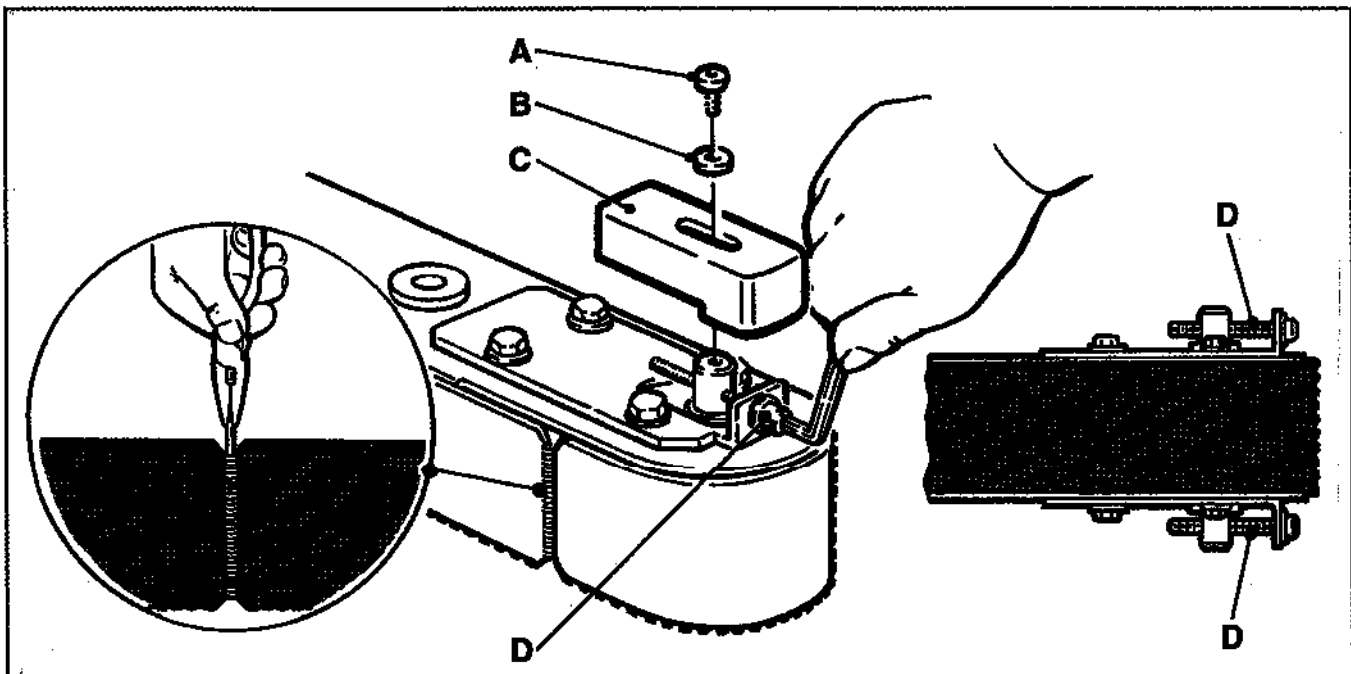

Figure 4-2 – Drive Belt, Upper
2. Remove screw (A), washer (B), and belt tensioner cover (C), Figure 4-2.
3. Turn belt adjustment screws (D) counterclockwise on both upper and lower tension assemblies until belt is loose. See Figure 4-2. Slip belt down off drive rollers and discard belt.